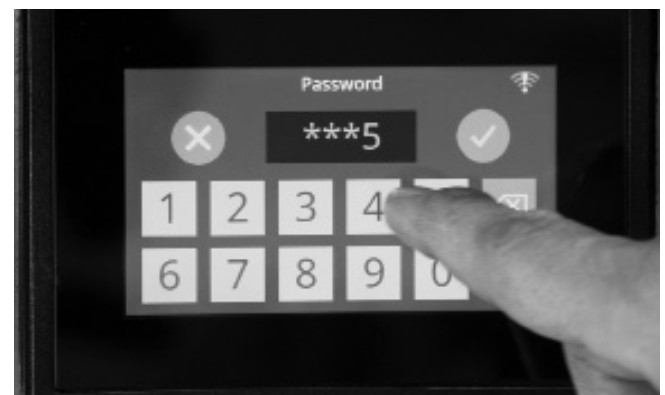

Figure 14
2. Enter the password by touching the numbers on the password screen. The password is: 6-7-8-5-3-5. This password is pre-set at the factory and is not changeable. (Figure 14)